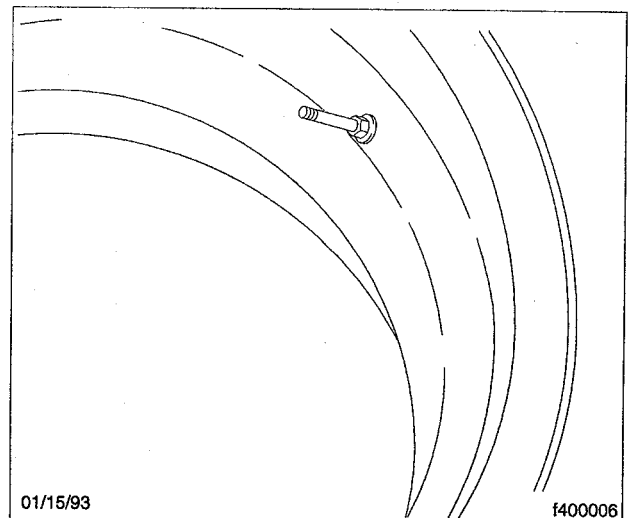

Fig. 5, Valve Stem
- 6.1 Place the valve stem, with a rubber washer, through the valve hole from the tire side of the rim. Screw on the valve nut from the opposite side. Make sure the rubber bushing and metal collar or nut are centered and fit snugly in the valve hole. See Fig. 5. Tighten the nut securely.